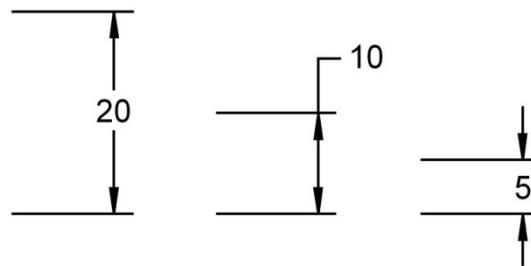

Figure 2-4: Arrowhead and feature size placement.
- **Arrowheads:** The length and width ratio of an arrowhead should be 3 to 1 and the width should be proportional to the line thickness. A single style of arrowhead should be used throughout the drawing. Arrowheads are drawn between the extension lines if possible. If space is limited, they may be drawn on the outside. Figure 2-4 shows the most common arrowhead configurations.